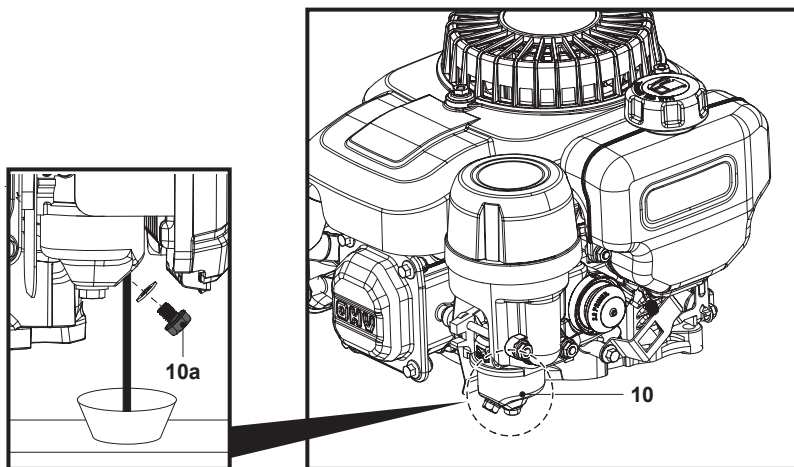

Fig. 23
3. Unscrew the fuel drain screw (10a) and let the fuel run into the container (Fig. 23).